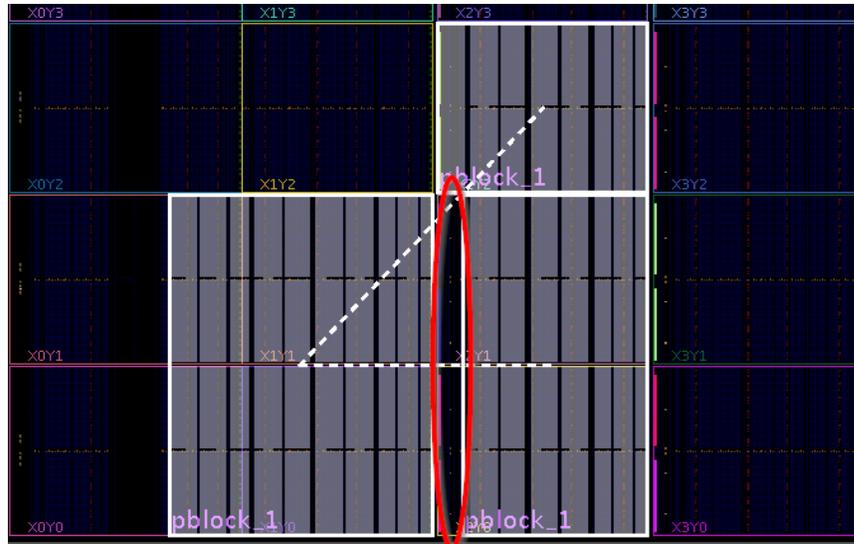

Figure 6-4: Gap in the IOB Column Not Supported
- Gaps in the IOB/XIPHY ranges, such as the gap in the IOB column shown in Figure 6-4 below.